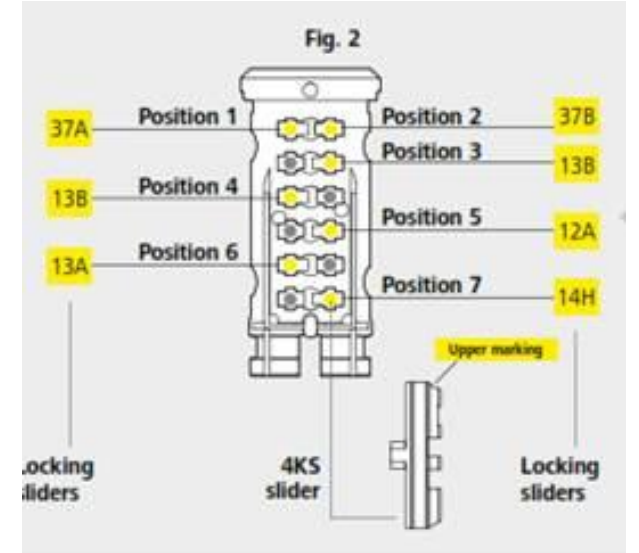

Figure 1
- The cylinder assembly changes in 4KS due to the 5&7 double curve vs single curve slider mentioned earlier however due thanks to wh software, promaster will depict the keying in the format in figure 1, meaning you can simply look at the keying chart and the cylinder will be keyed up the same.